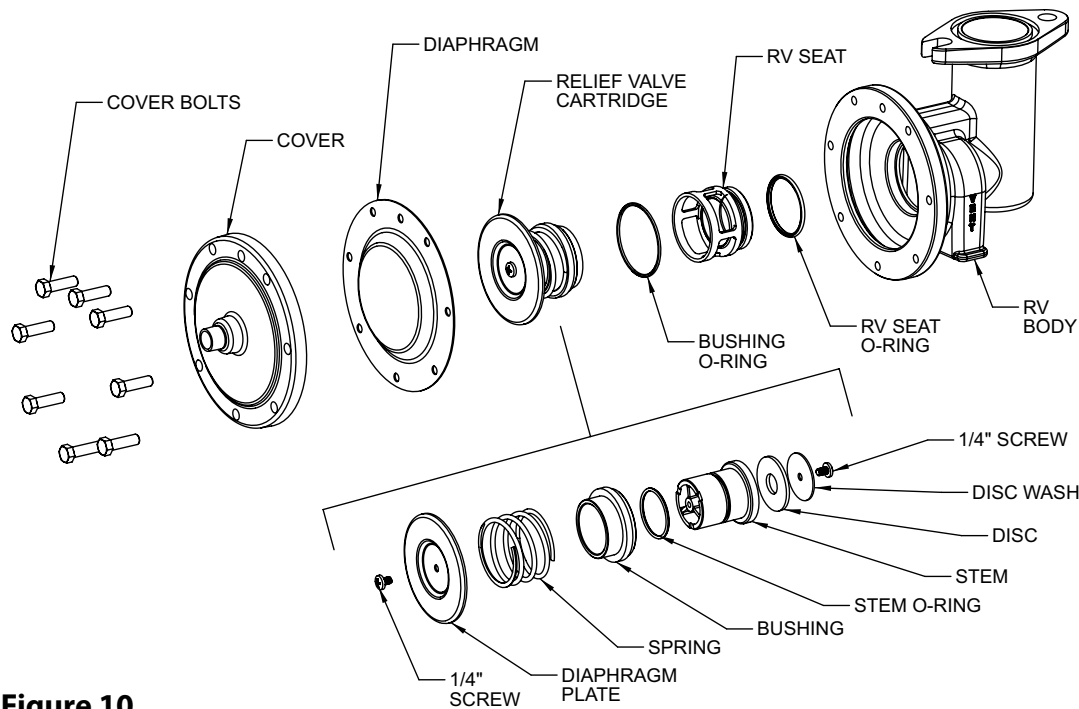

Figure 10
NOTE: See Figure 10.
1. Unscrew the sensing hose from the relief valve (RV) cover nipple (sensing hose is not shown).
2. The RV can be serviced while still attached to the valve or it can be removed (rarely needed). To remove the RV, unscrew the two 3/4" bolts securing the RV to the valve body. *NOTE:* When removing the RV from the valve body, take care not to damage flow divider (See Figure 10). The shroud does not need to be removed to service the RV.
3. Remove the RV cover by removing the eight (8) 1/2" bolts.